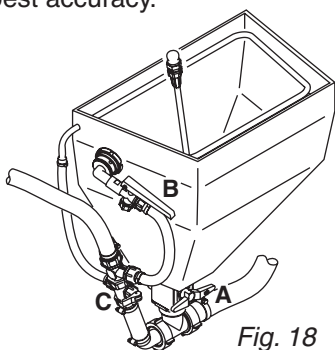

Fig. 18
7. Make sure the bottom valve **(A)** (Fig. 18) is closed on the HARDI® CHEMICAL FILLER.
11. Open the bottom valve **(A)** (Fig. 18) to transfer the chemical to the main tank.
12. If the chemical container is empty, it can be rinsed by using the Bag & Bottle Rinse (optional). Place the container over the multi-hole nozzle and press the lever **(B)** (Fig. 18).
WARNING: Do not press lever (B) (Fig. 18) unless the multi-hole nozzle is covered by a container to avoid spray liquid hitting the operator.
13. Engage the hopper rinsing device by opening valve **(C)** (Fig. 18).
14. Close valve **(C)** (Fig. 18) when the hopper is rinsed.
15. Close valve **(A)** (Fig. 18) and the chemical hopper lid. Turn the bottom black manifold valve back to MAIN TANK (if flush tank was used). Finish filling main tank with clean water to desired amount. When the spray liquid is well mixed, it may be sprayed on the crop. Leave the agitation valve at maximum agitation so the spray liquid is continuously agitated while spraying.